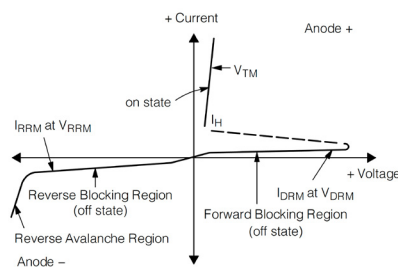

Figure 1. Typical RMS Current Derating
2. Ratings apply for $t_w = 1$ ms. See Figure 1 for ITM capability for various duration of an exponentially decaying current waveform, t_w is defined as 5 time constants of an exponentially decaying current pulse.
5. Ratings apply for $t_w = 1 \text{ ms}$. See Figure 1 for I_{TM} capability for various durations of an exponentially decaying current waveform. t_w is defined as 5 time constants of an exponentially decaying current pulse.